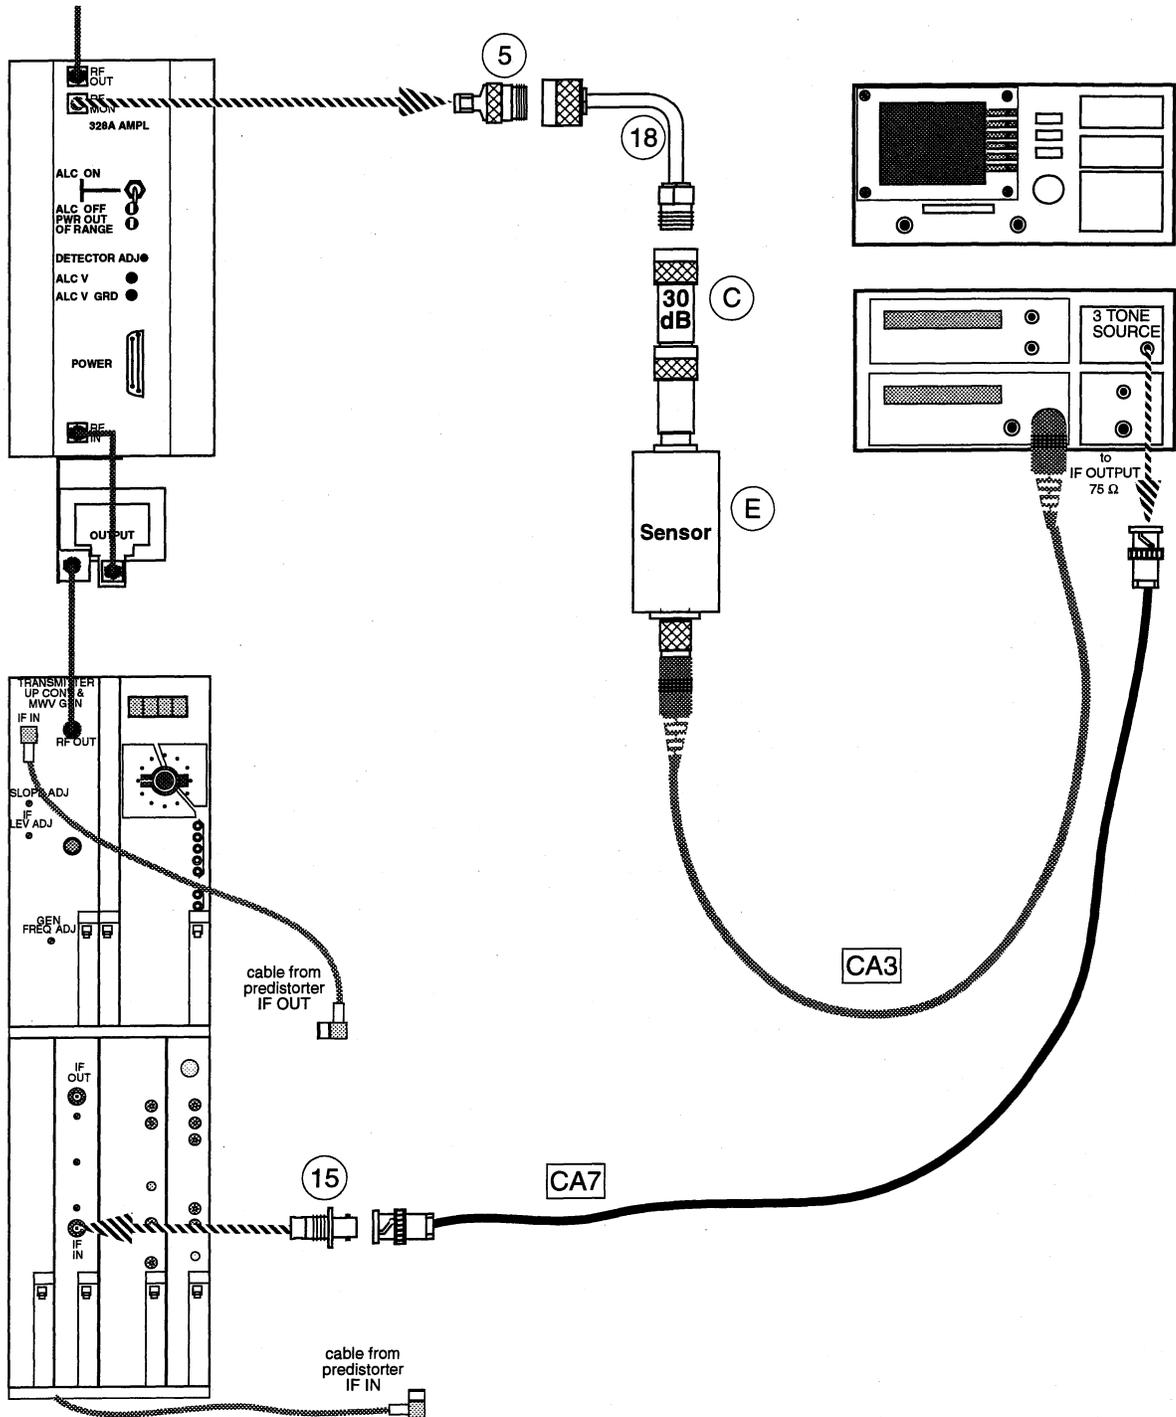

Figure 15. RF MON Power Measurement (with 3-Tone Test Signal Applied)—
- 13 Connect the test equipment as shown in Figure 15.